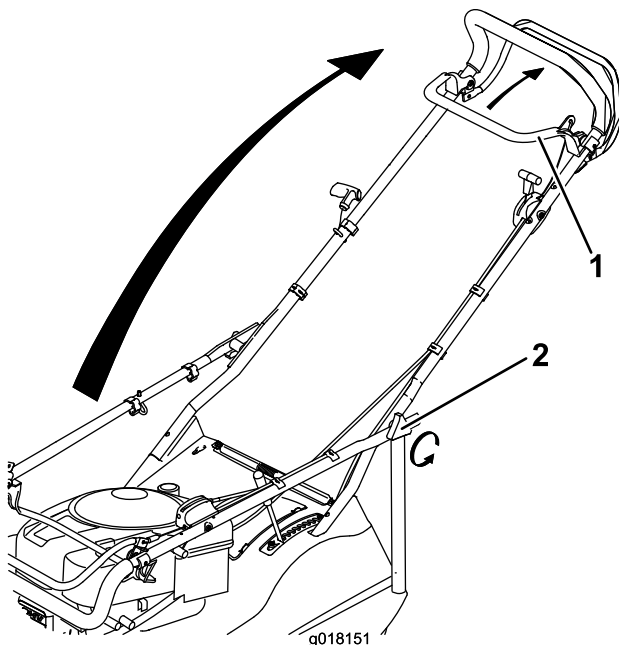

Figure 3
1. Loosen the handlebar knobs (Figure 3).